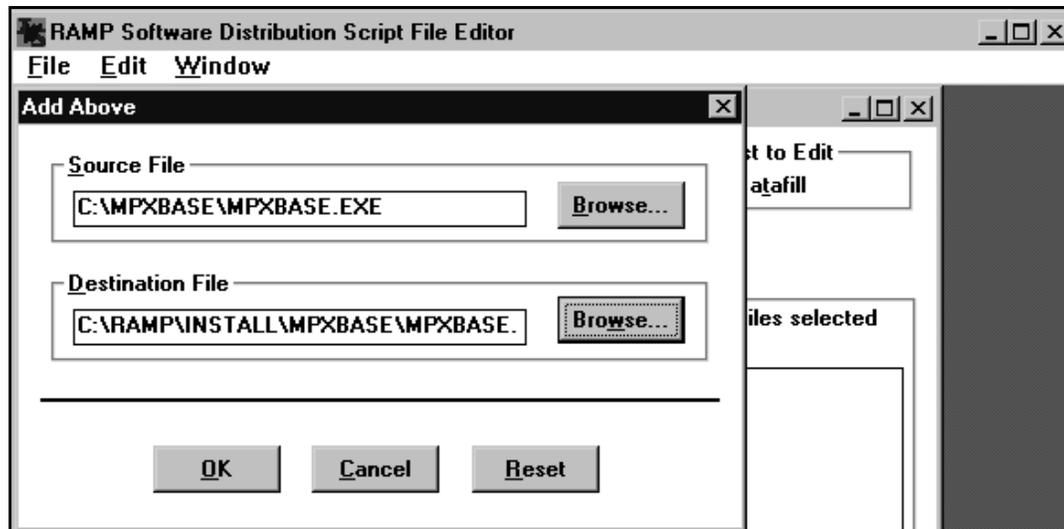

FIGURE 39. Add Above dialog box
8. In the Transfer File List box, select Add Above. (See Figure 39.)